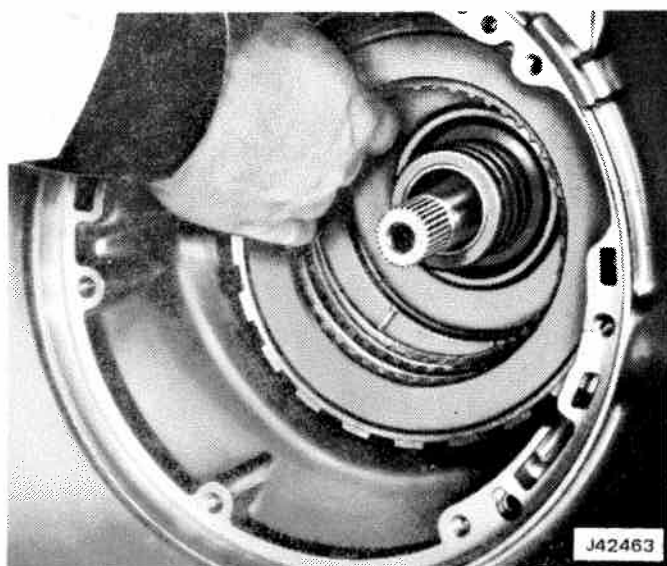

Fig. 7-33 Intermediate Clutch
(2) Remove intermediate clutch backing plate to case snap ring.
(3) Remove intermediate clutch backing plate, three composition, and three steel clutch plates from transmission case (fig. 7-33).